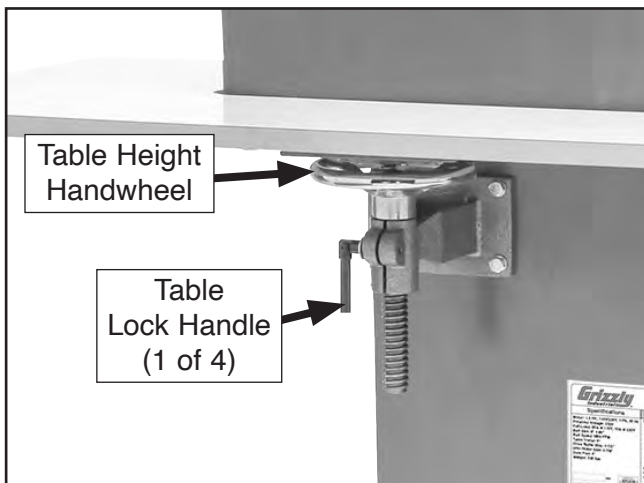

Figure 41. Table height controls.
1. Loosen (4) table lock handles (see **Figure 41**).
2. Turn table height handwheel to raise or lower table to desired height (see **Figure 41**).